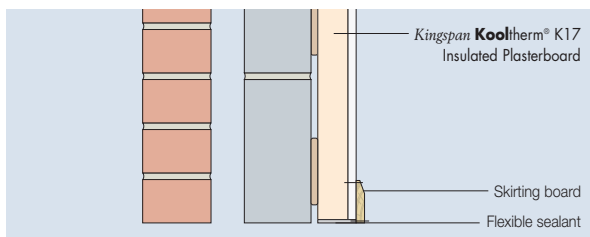

Figure 9 – Packer and skirting detail
- The packer should be replaced with a flexible urethane / acoustic sealant prior to skirting being fitted (see Figure 9).